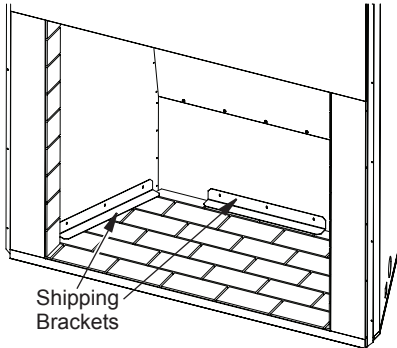

Figure 19 - Removing Shipping Brackets
1. The fireplace is shipped with the hearth preinstalled. It is held in place for shipping with 3 shipping brackets (Figure 19). Remove these brackets before installing any of the other firebrick walls.